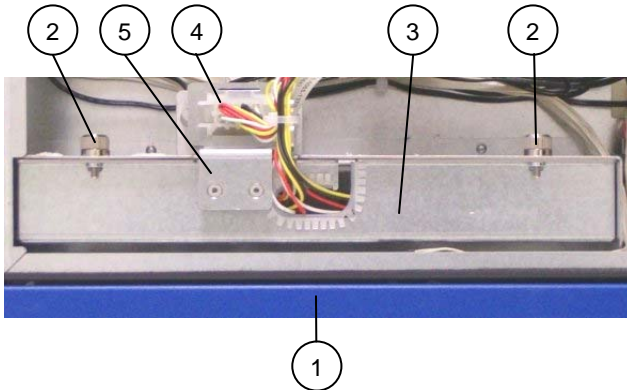
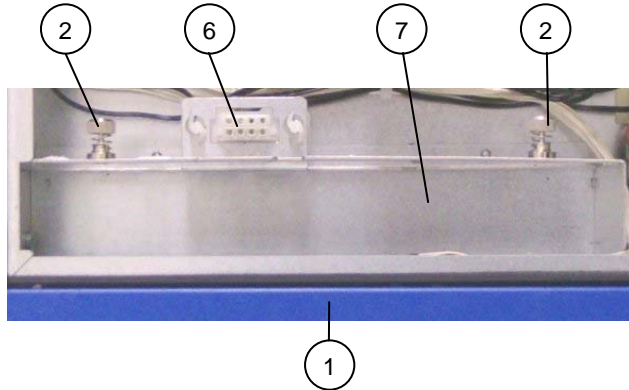
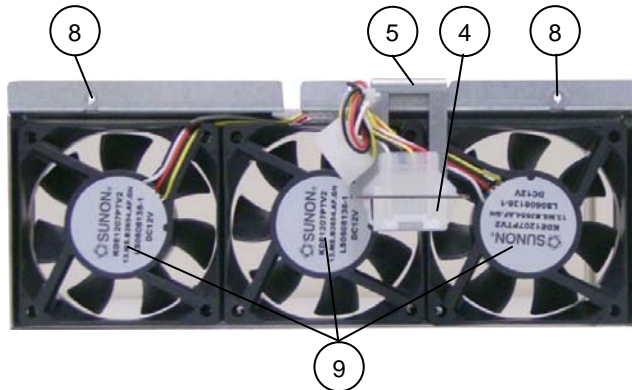

Fig. 19: KISS 2U Short – Details of the fan slide-in module in the system housing
Fig. 20: Fan compartment of the KISS 2U Short without fan slide-in module
Fig. 21: Fan slide-in module for the KISS 2U Short – connector side
2. Loosen the knurled screws (Fig. 19, *pos. 2*) and pull the handle on the fan slide-in module (Fig. 19 *and* Fig. 21, *pos. 5*) upwards out of the fan compartment (Fig. 20, *pos. 7*).
Legend for Fig. 19, Fig. 20 and Fig. 21:
4. Tighten the knurled screws (Fig. 19, pos. 2) up again.